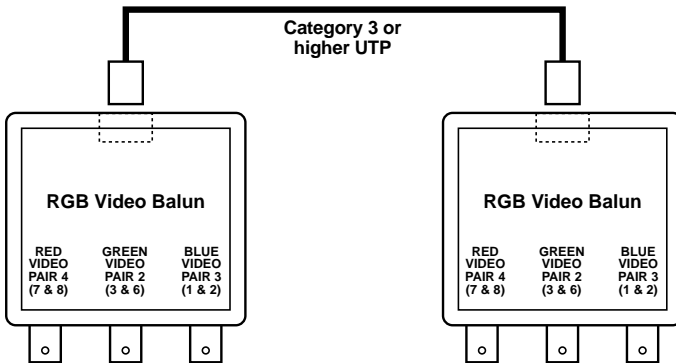

Figure 3-2. Two Baluns cabled together.
8. Plug the other end of each UTP cable into the appropriate video wall outlet or patch panel. When this is done, a complete cabling circuit should run between the two baluns, as shown in Figure 3-2 below.